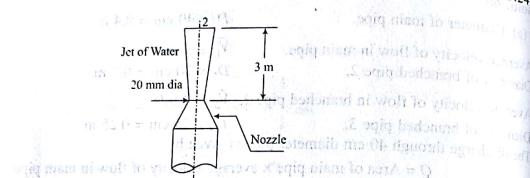

Figure 13.14
**Solution** Let the nozzle exit and the point 3 m above nozzle be designated by point 1, and 2 respectively, as shown in Fig. 13.14.